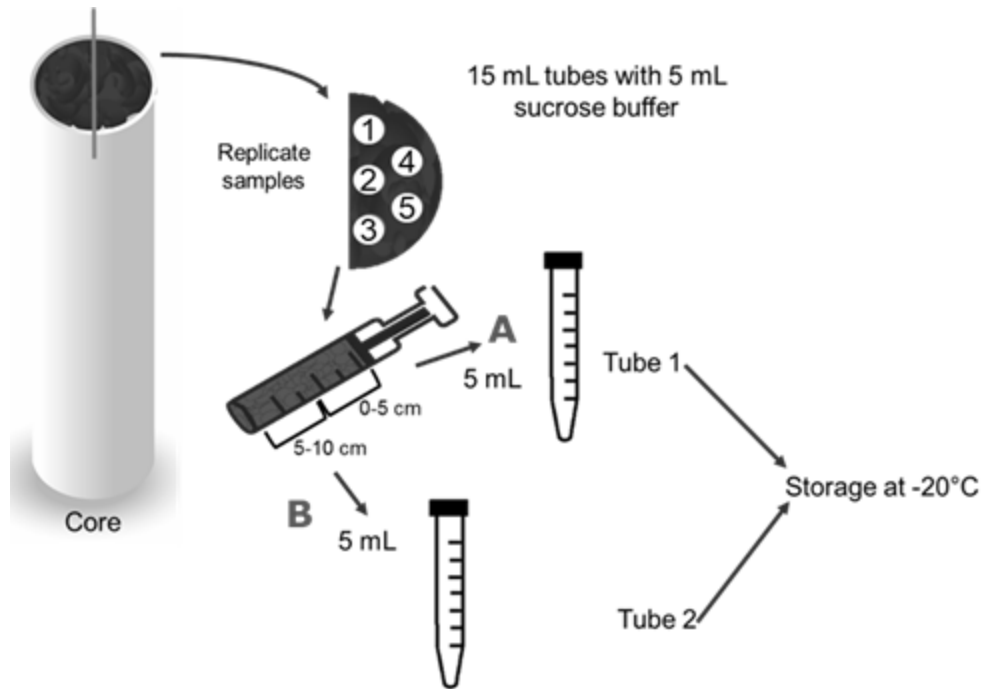

Figure 1. Scheme for sediment sampling and storage.
- 9 All tubes should contain 25% w/v sucrose buffer (stored at room temperature) (Figure 1-next section).
- 12 Immerse syringes (cylinder) in one half of the core (Figure 1) to take the sample.